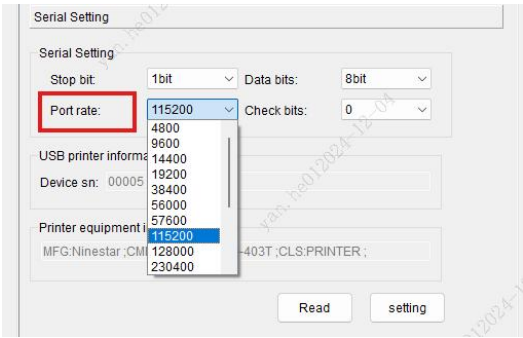

Fig.47
③ port rate: The baud rate determines the speed of data transmission; a higher baud rate results in faster transmission speed, but it also increases device power consumption and the likelihood of transmission errors. Please select according to your needs (shown in Fig.47).